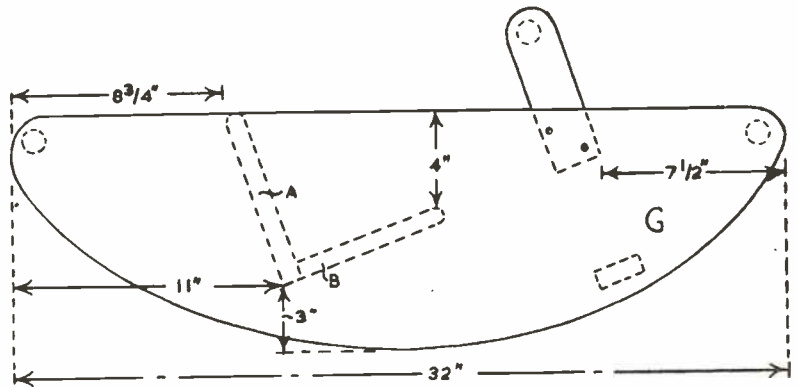

Fig. 1
The exact shape is not important, but should be on the lines shown in Fig. 1. The overall length is 32 in. and the depth of the sides (G) about 10 in. These may be drawn out on a sheet of paper first before transferring to $\frac{3}{4}$ in. plywood. The approximate positions of seat, footrest, etc. should be marked at the same time.